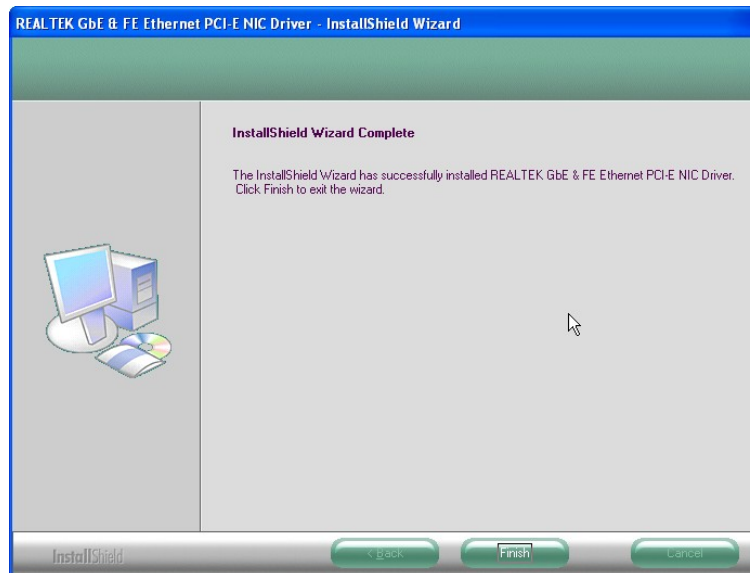

Figure 6-15: LAN Driver Installation Complete
**Step 9:** When the driver installation is complete, the screen in **Figure 6-15** appears.